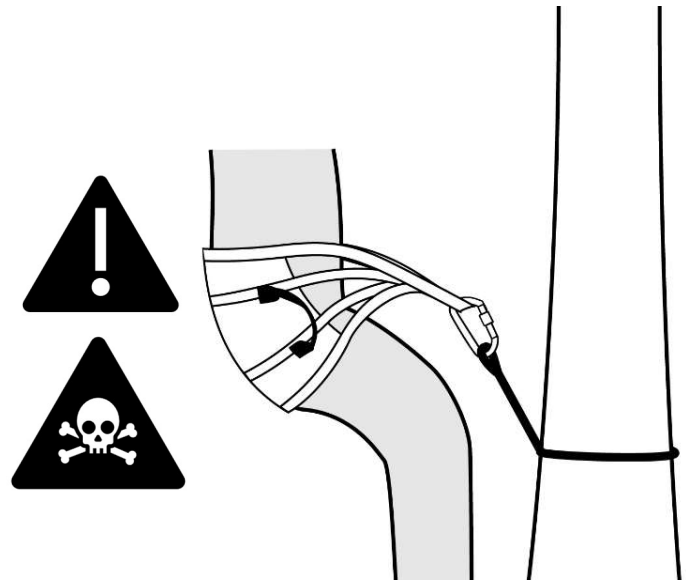

Figure 8
5. **Never** climb above your tether. (Figure 8)